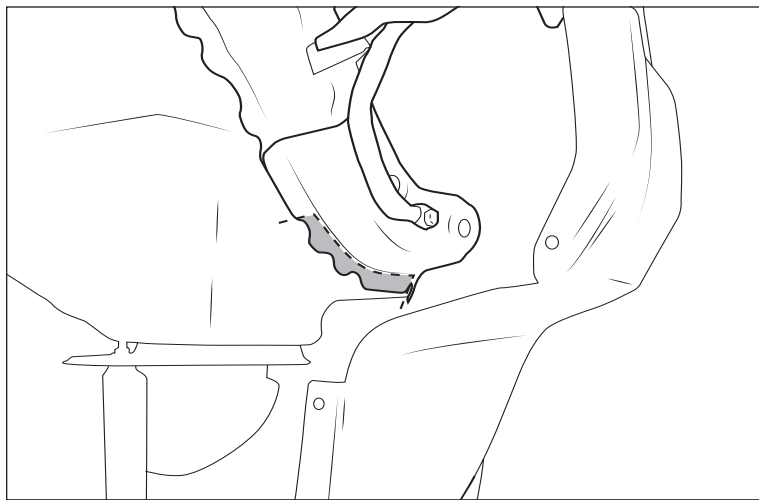

Figure 6
8. Cut pinch seams at the front of the wheel wells and remove shaded material (fig. 6).